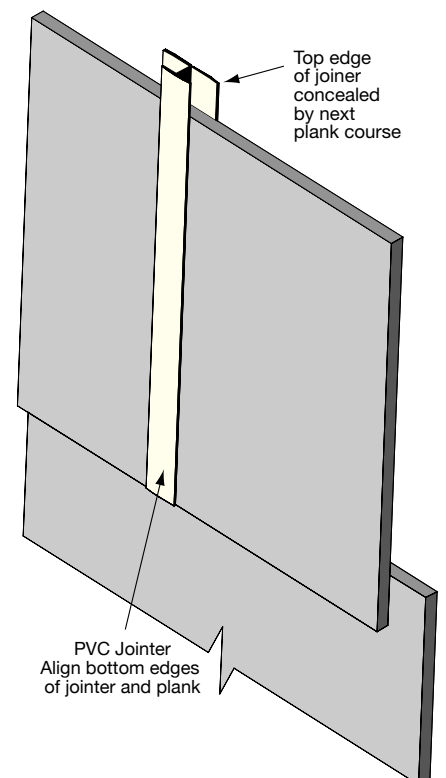

FIGURE 5 // FOUNDATION DETAIL
- Fix a starter strip or starter plank to the bottom plate to ensure the first row of planks are packed out to the correct angle. This starter strip is to be continuous around the perimeter of the building allowing the cladding to overhang the bottom plate by 50mm. See figure 5.